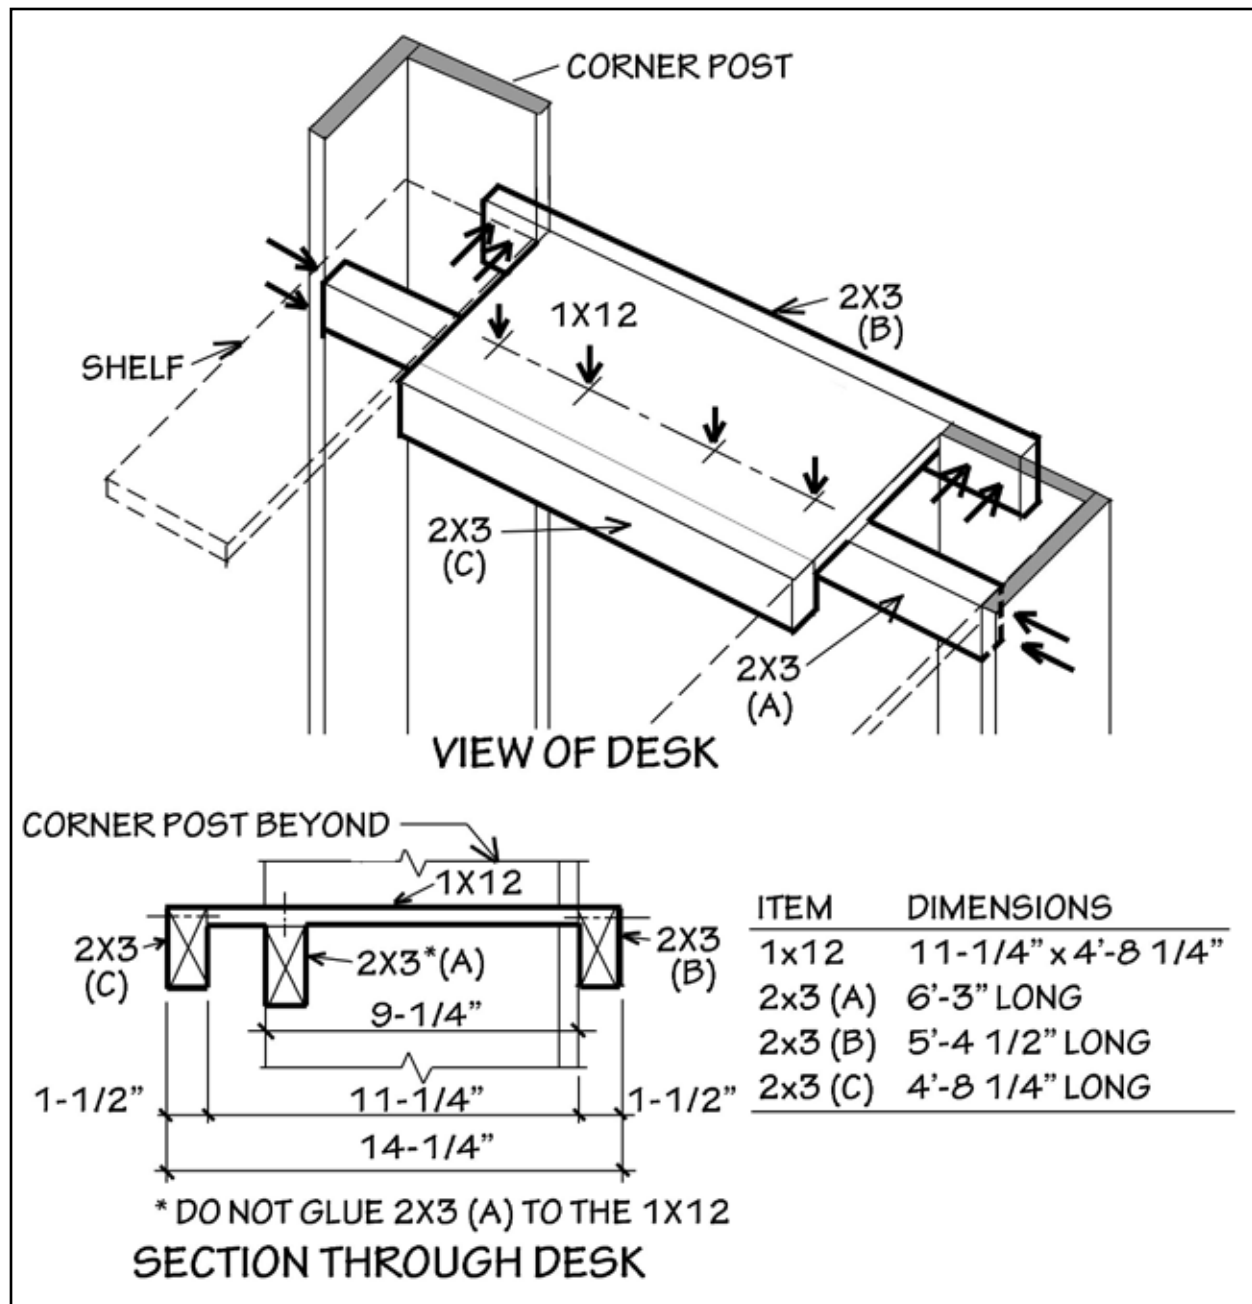

Figure 4. Fabrication and installation of desk
6. DESK. The desk consists of three 2x3s and a 1x12 glued together as shown in Figure 4. Two of the three 2x3s extend symmetrically beyond the 1x12 board (i.e., the 2x3s labelled A and B); the third 2x3 (labelled C) is the same length as the 1x12. First screw 2x3 (A) flush with the corner posts as shown. The top of the desk aligns with the top of the third shelf from the bottom, i.e., it is 2'-4" above the floor (see diagram on page 4). So the top of 2x3 (A) should be pressed up against the bottom of that shelf. Fasten this 2x3 to the corner posts with two 2-1/2" screws on each side.
Next, move the rest of the desk, already screwed and glued together as shown in Figure 4, into position, resting on 2x3 (A) and pressed up against the outside surface of the back corner posts. Screw 2x3 (B) to the corner posts with 2-1/2" screws, paying attention to the direction of the arrows in Figure 4. Finally, screw the 1x12 desk surface into 2x3 (A) with 1-5/8" screws. It is also a good idea to screw through the side shelves into 2x3 (A) on the same line as the screws through the 1x12 desk into 2x3 (A). These additional screws are not shown in Figure 4.